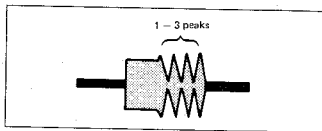

Fig. 7-75.
- 2) Confirm that the RF waveform on the exit side has 1 to 3 peaks. If not, readjust as follows. (See Fig. 7-75.)